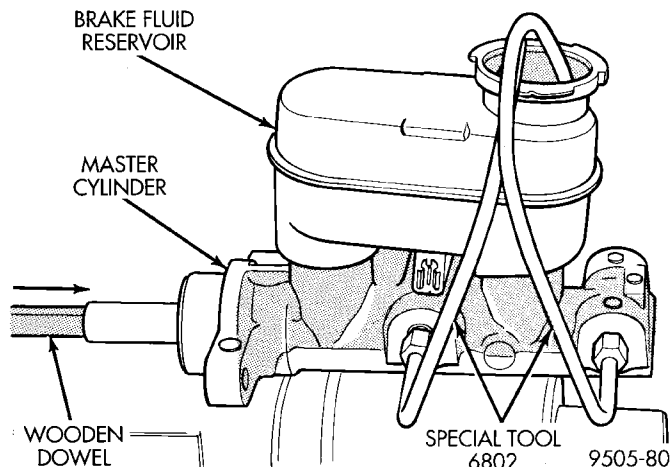

Fig. 38 Bleeding Master Cylinder
(2) Fill brake fluid reservoir with brake fluid conforming to DOT 3 specifications such as Mopar or an Equivalent.
(3) Using a wooden dowel per (Fig. 38). Depress push rod slowly, and then allow pistons to return to released position. Repeat several times until all air bubbles are expelled.
(4) Remove bleeding tubes from master cylinder outlet ports, plug outlet ports and install fill cap on reservoir.
(5) Remove master cylinder from vise.